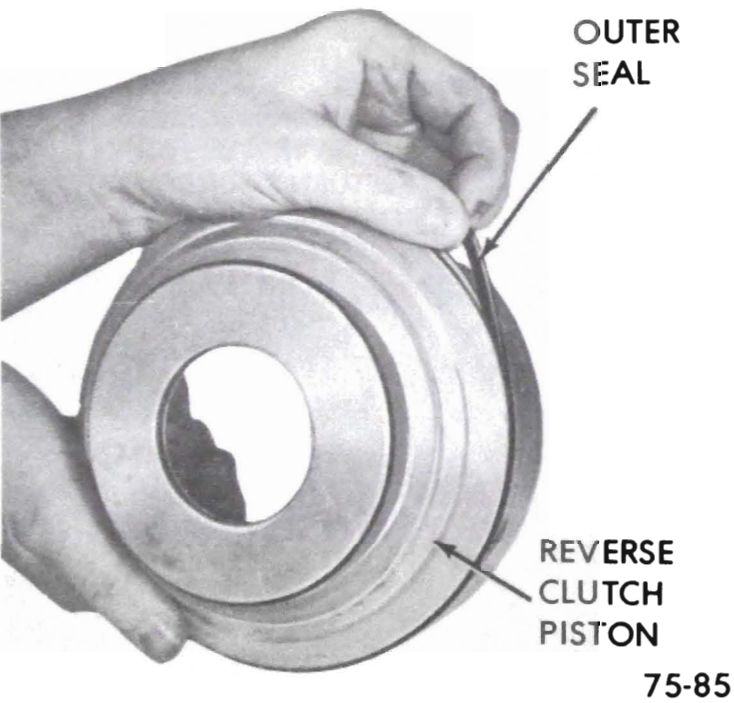

Figure 75-120
1. Remove low and reverse clutch piston outer seal. See Figure 75-120.